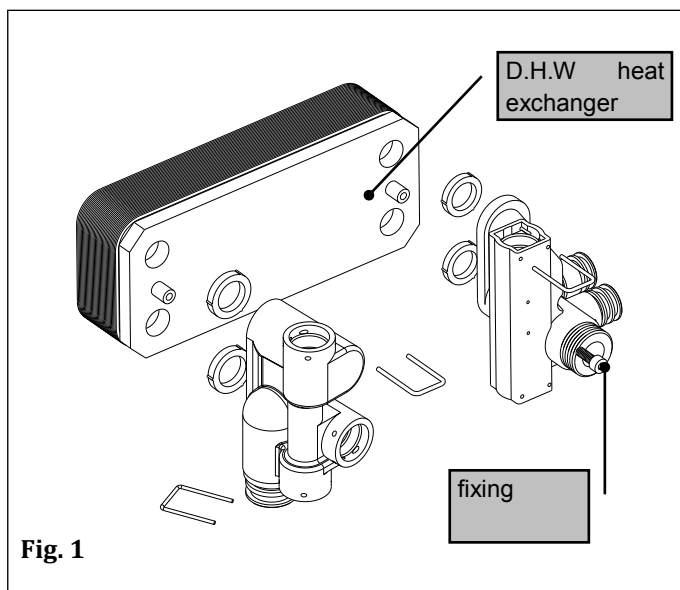

Fig 2.
- Lubricate the 3-way valve using a TPFE aerosol lubricant. Fig 2
(see fig. 2)